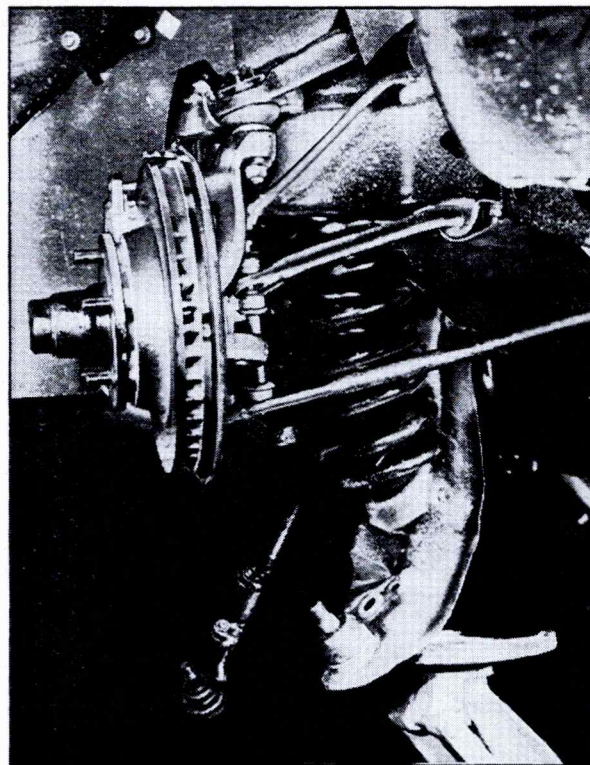

Fig. 3-22 Coil Spring Installation
3. With aid of a helper and with jack placed under lower arm, Fig. 3-22, raise arm into position. Spring may have a tendency to rotate as arm is raised, mispositioning spring. Top of spring must seat within the five depressions on frame tower, and bottom end must be flush to one inch back of the front of left lower arm, or flush to one inch forward of the back of right lower arm.